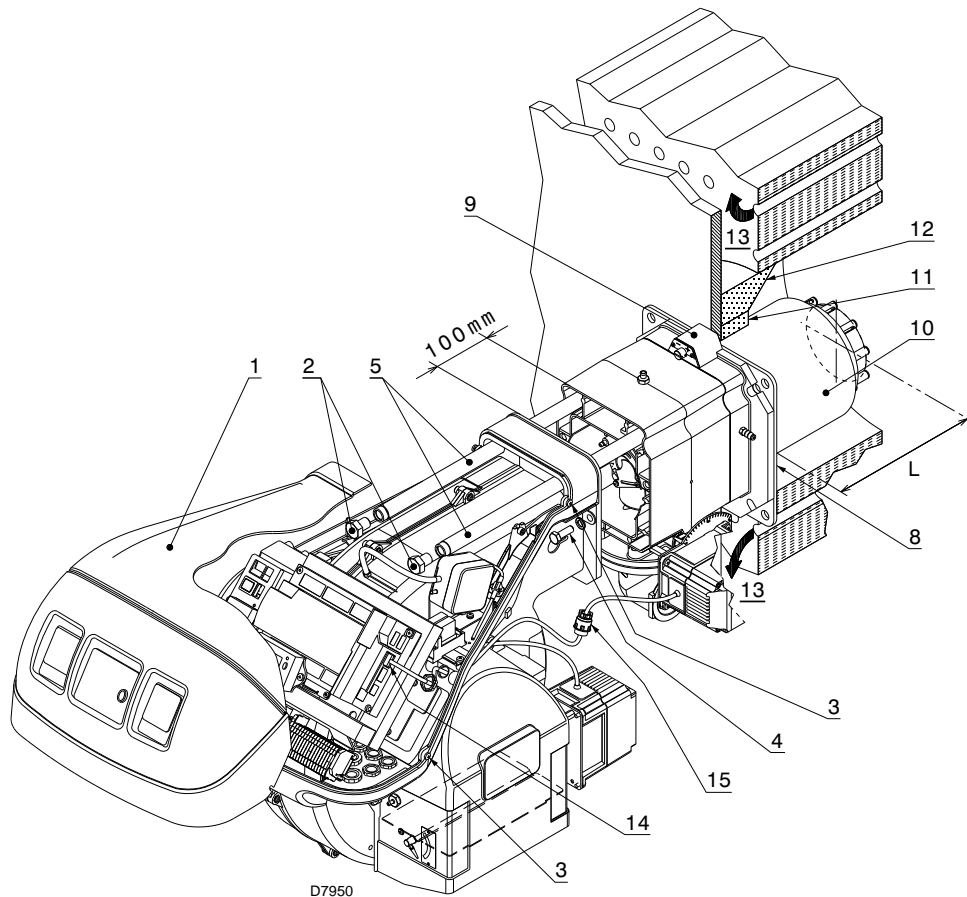

Fig. 13
The length of the blast tube 10) (Fig. 13) must be selected according to the indications provided by the boiler manufacturer, and in any case must be greater than the thickness of the boiler door complete with its refractory.
The available lengths L) (Fig. 13) are:
Separate the combustion head from the rest of the burner, Fig. 13.
Once this operation (if necessary) has been carried out, fix the flange 9) (Fig. 13) to the boiler plate, interposing the insulating gasket 8) supplied as standard equipment.
- reassemble the burner on the slide bars 3)(Fig. 13), about 100 mm from the pipe coupling 4);
- connect the servomotor plug 14)(Fig. 13) and tighten the cable grommet 15);